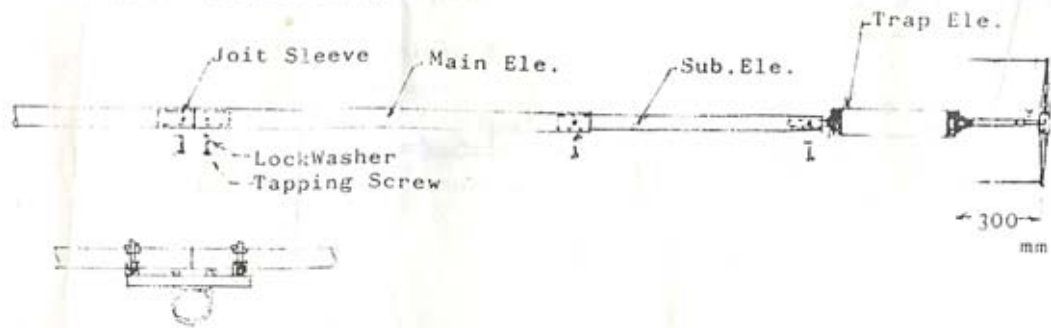

Fig.3 Feeding System & Element Clamp
- 2.4 Insert main element Ra sections trough the bracket BR-22. Separate the main elements mutually 10mm distance at center as shown figure 3.
Secure with nut and lock washer. (refer to Fig.3)